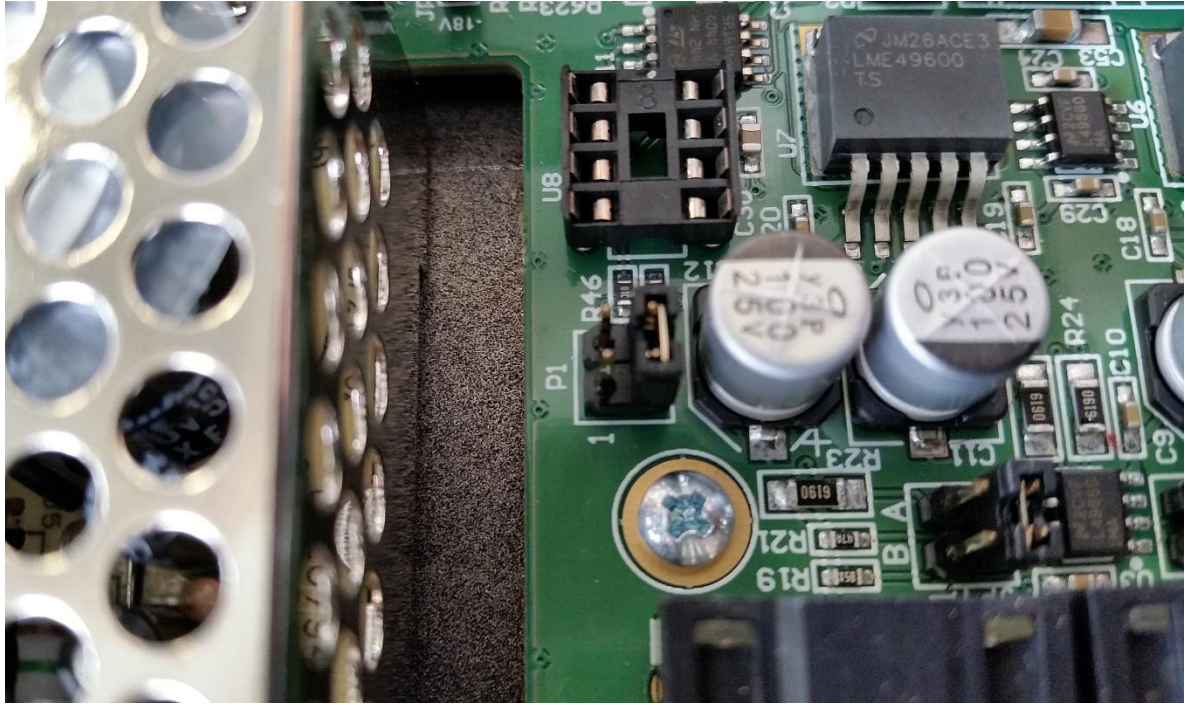

Figure 2 - On the main board, move jumper on P1 to this position.
4. On the main board, move the jumper at P1 so that it is on the two pins closest to C12 (see Figure 2).